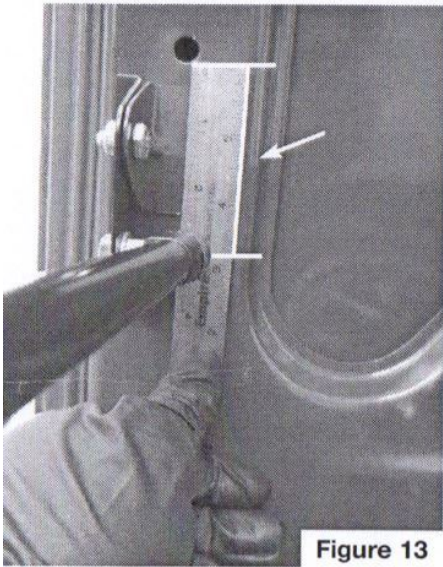

Figure 13
13. Verify that all the mounts and hardware are in the correct position on the left side trunk support. Measure the distance from the bottom of the hole to the centre of the end of the gas strut. Refer figure 13.